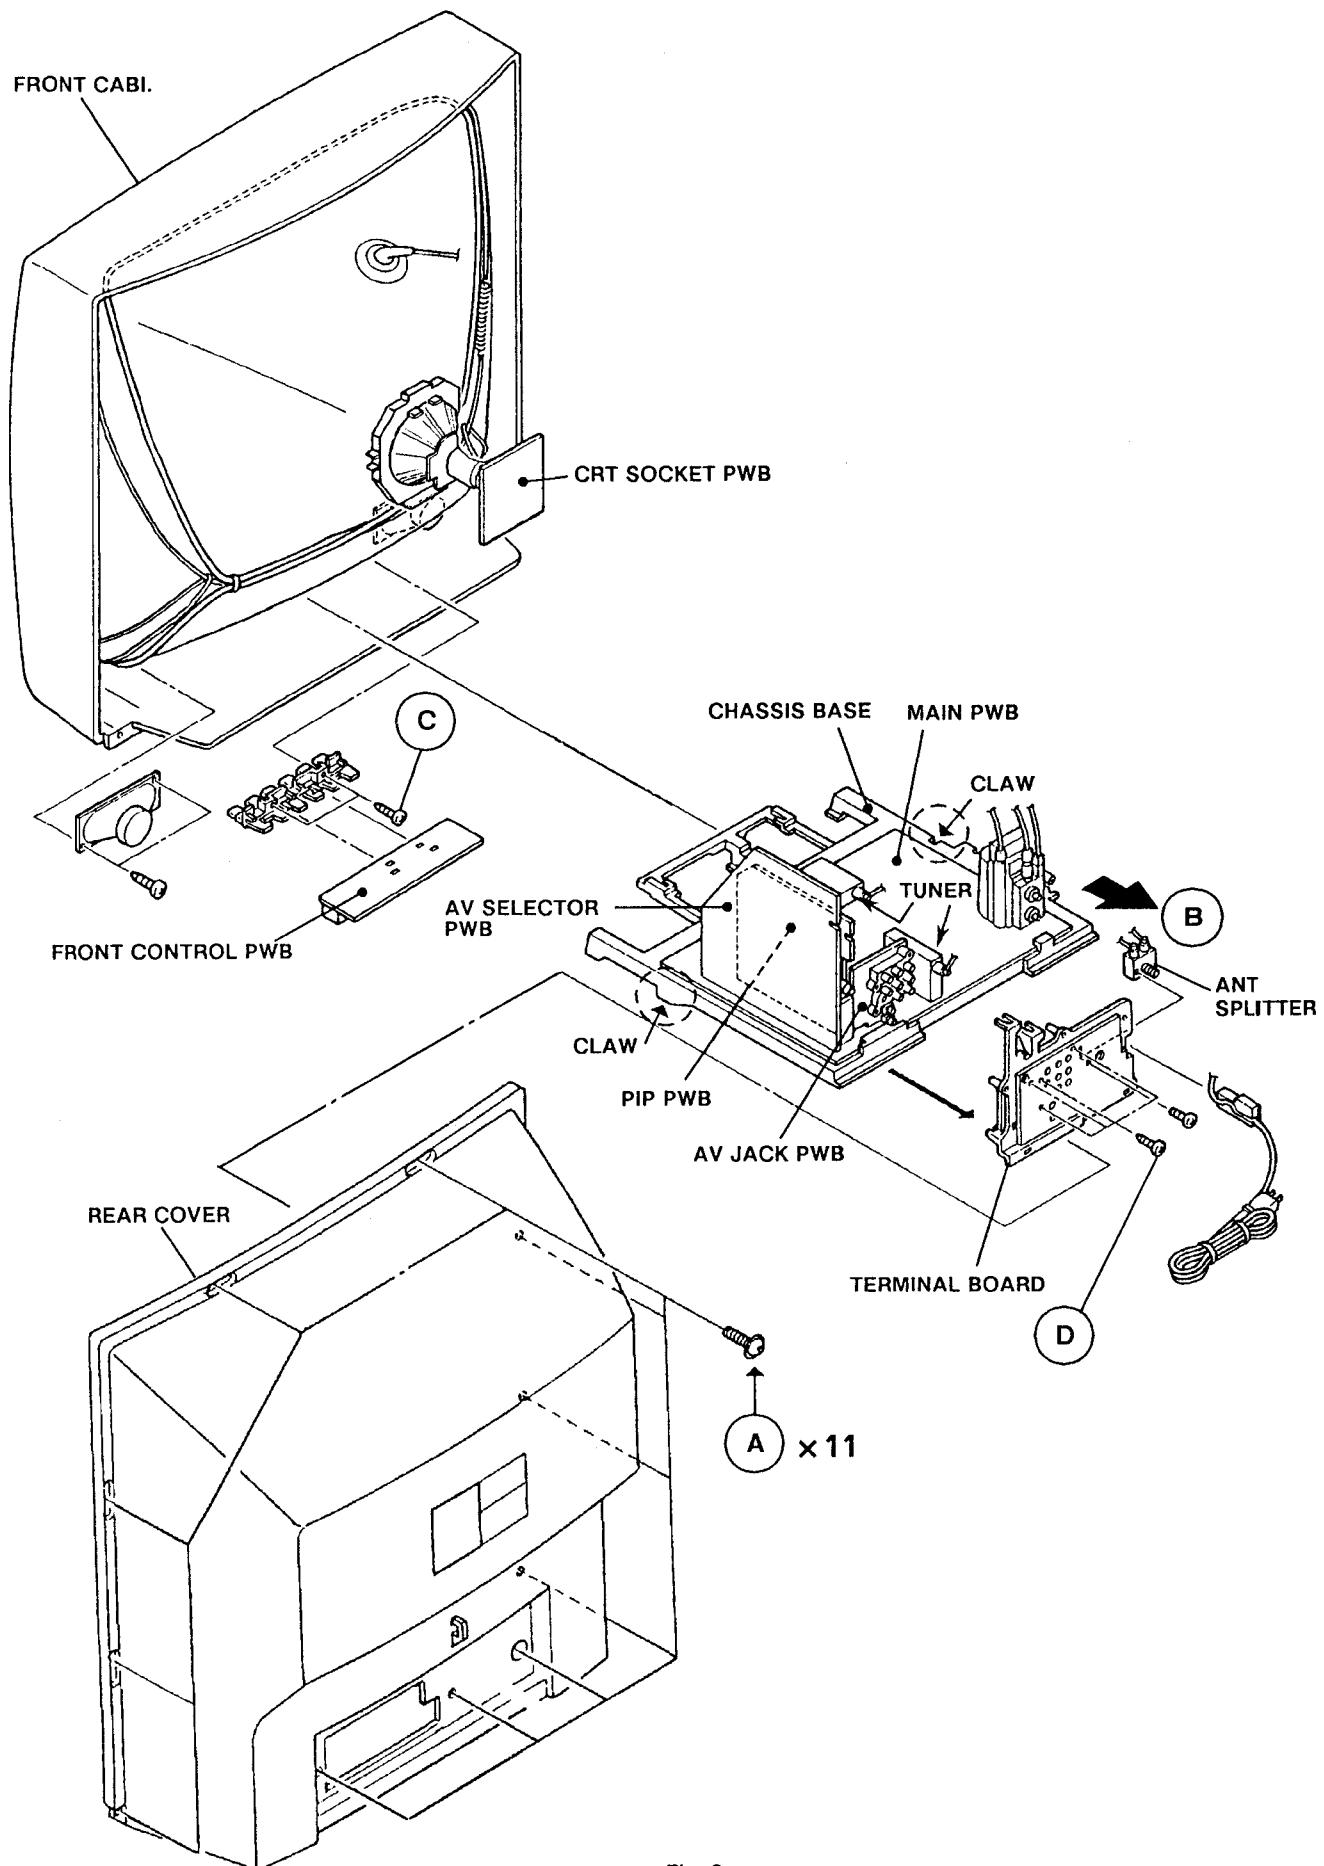

Fig. 2
2. Remove the 11 screws marked **(A)** as shown in Fig. 2.
- 2. Draw the chassis backward along the rail in the arrow direction marked **(B)** as shown in the Fig. 2.
- 1. Remove the 2 screws marked **(C)** as shown in Fig. 2.
- 1. Remove the 4 screws marked **(D)** as shown in Fig. 2.